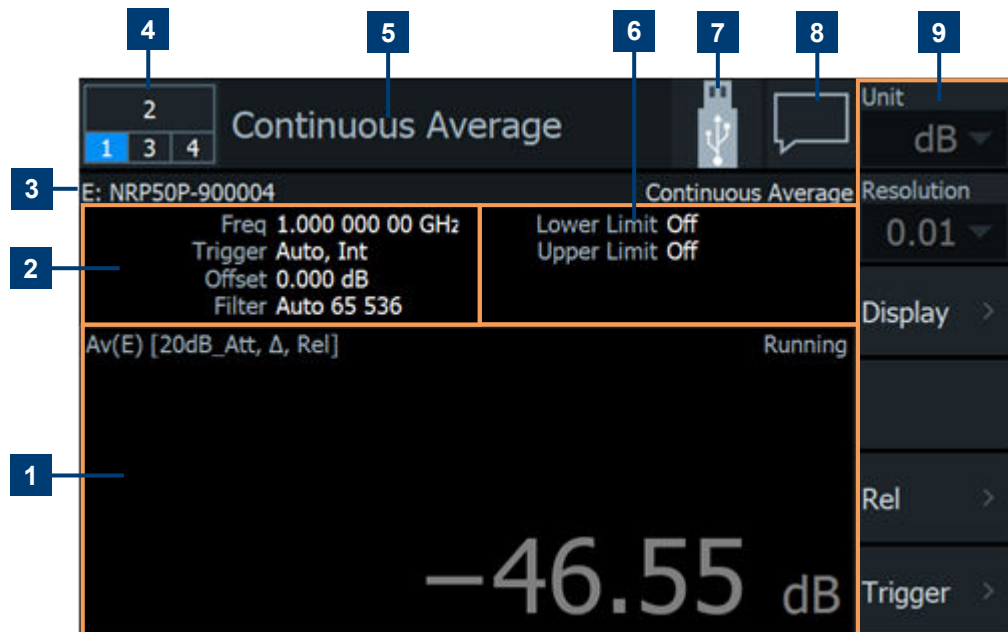

Figure 4-1: Main measurement dialog
In the upper left corner, information on the measurement is given. In Figure 4-1, the information is "Av(E) [20dB\_Att, Δ, Rel]", meaning:
- ▶ Select the area **1** in Figure 4-1.
- ▶ Select the area **2** in Figure 4-1.
- ▶ Select the area **6** in Figure 4-1.
- ▶ Select an element in the area **9** in Figure 4-1.
See Figure 4-1.